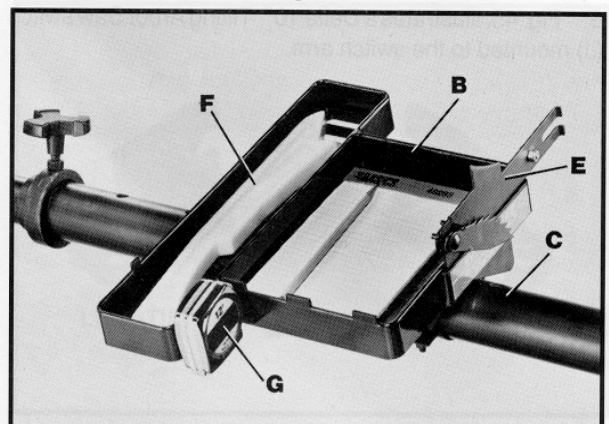

Fig. 41
3. Fig. 41, illustrates the storage basket (B), with splitter (E), push stick (F), tape measure (G) and miscellaneous material assembled to the support arm (C). **IMPORTANT:** Note the position of the splitter (E), when correctly stored in the basket (B).